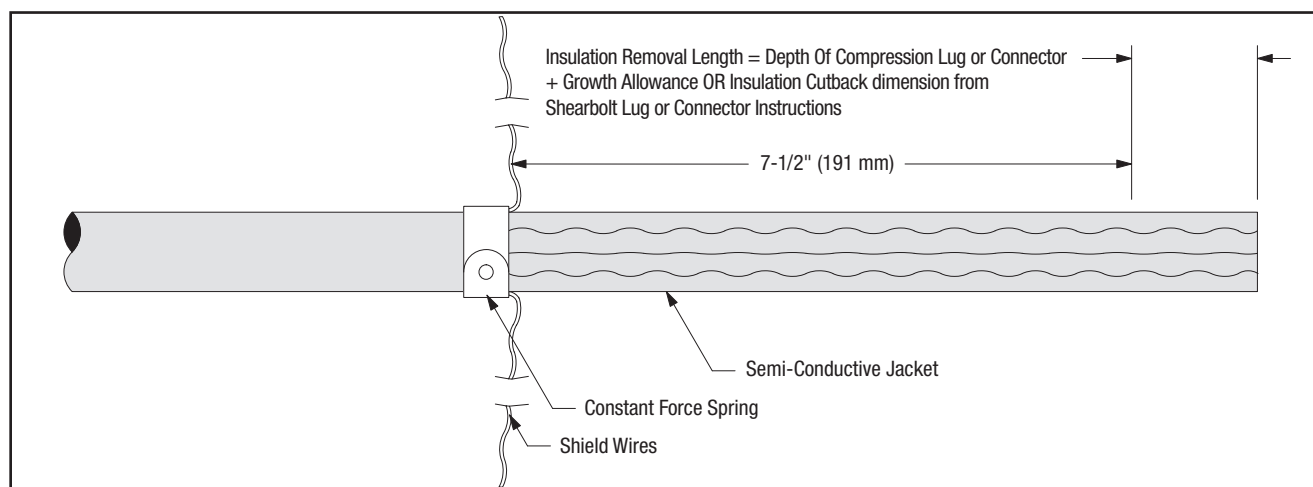

Figure 16
- 12.2 Prepare cable using dimensions shown in Figures 16, 17 and 18. **BE SURE TO ALLOW FOR DEPTH OF TERMINAL LUG OR CONNECTOR.**
12.4 Install constant force spring as shown in Figure 16. Pull shield wires through semi-conductive jacket to leading edge of constant force spring (Figure 16).